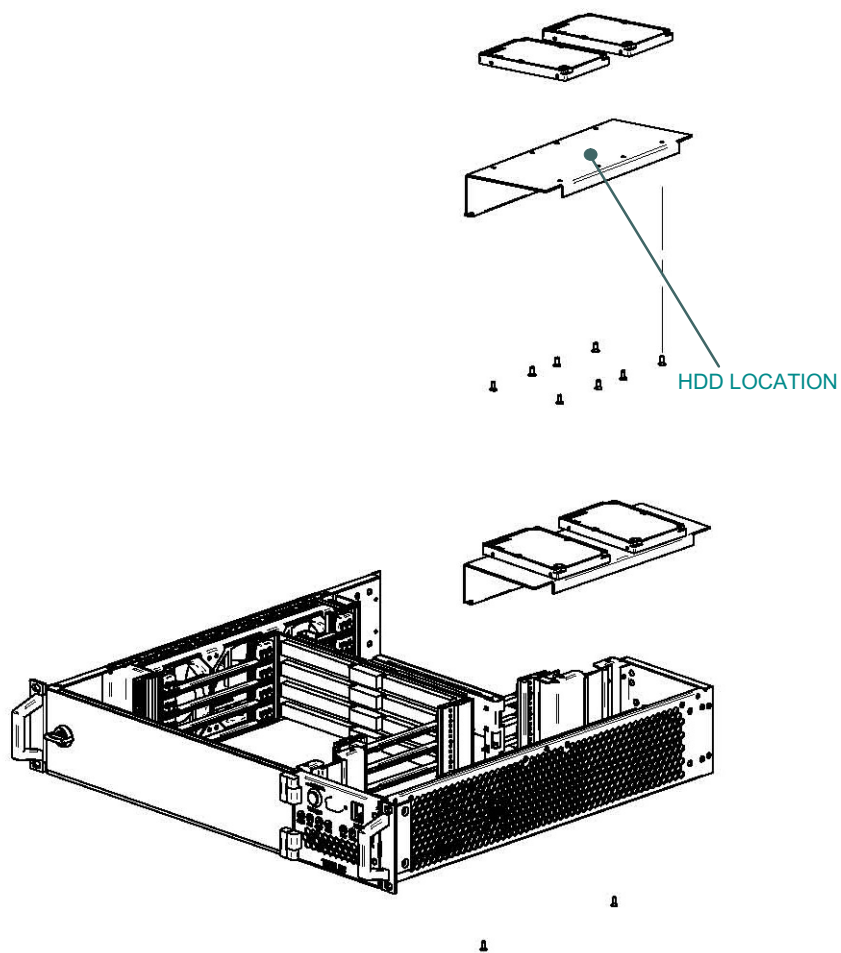

Figure 12: Access to the Internal Peripherals (2/2)
3. A specific support, on top of the power supply unit, is used to maintain up to two 2.5" HDD. Refer to Figure 12 page 20.